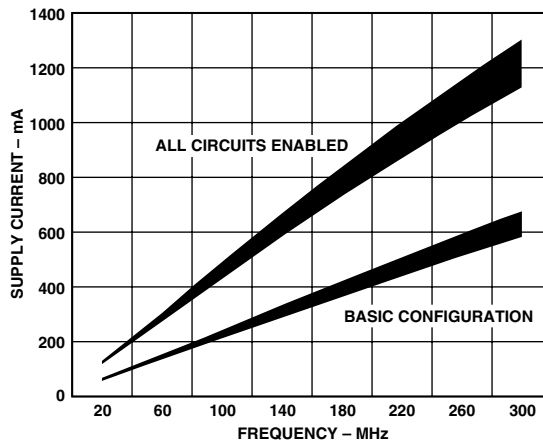

Figure 36a. Current Consumption vs. Clock Frequency
**Mode of Operation**—The selected mode of operation for the AD9852 has a great influence on total power consumption. The AD9852 offers many features and modes, each of which imposes an additional power requirement. The collection of features contained in the AD9852 targets a wide variety of applications and the device was designed under the assumption that only a few features would be enabled for any given application. In fact, the user must understand that enabling multiple features at higher clock speeds may cause the maximum junction temperature of the die to be exceeded. This can severely limit the long-term reliability of the device. Figures 36a and 36b provide a summary of the power requirements associated with the individual features of the AD9852. These charts should be used as a guide in determining the optimum application of the AD9852 for reliable operation.
Figure 36a shows the supply current consumed by the AD9852 over a range of frequencies for two possible configurations: *all circuits enabled* means the output scaling multiplier, the inverse sinc filter, both DACs, and the on-board comparator are all enabled. *Basic configuration* means the output scaling multipliers, the inverse sinc filter, the control DAC, and the on-board comparator are all disabled.
Figures 36a and 36b may be used to determine the suitability of a given AD9852 application vs. power dissipation requirements. These graphs assume that the AD9852 device will be soldered to a multilayer PCB per the recommended best manufacturing practices and procedures for the given package type. This ensures that the specified thermal impedance specifications will be achieved.